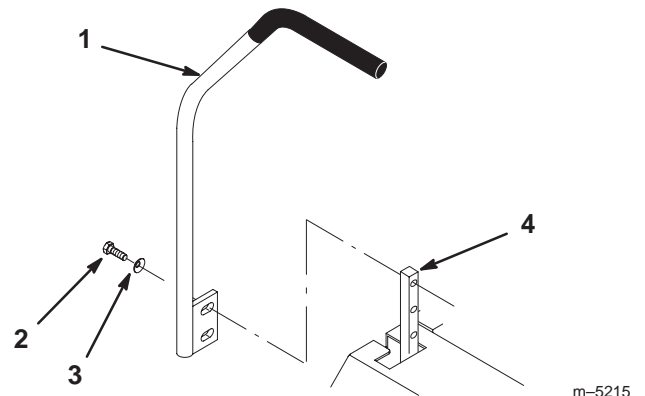

Figure 13
1. Remove the 2 screws and curved washers holding the control lever to the control arm shaft (Fig. 13).
2. Move the control lever to the next set of holes. Secure the lever with the 2 screws and curved washers. The cupped side of the washer should be toward the control arm shaft (Fig. 13).